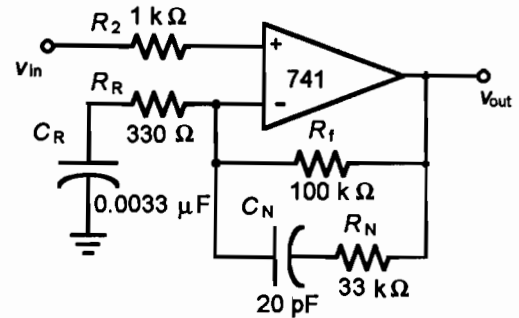

Figure 60.1
1. Build the circuit of Figure 60.1. Apply DC power.
7. For the circuit of Figure 60.1, calculate and record the cutoff frequencies below.
Calculate and record the bandwidth (BW) for the circuit of Figure 60.1.
- Use the circuit of Figure 60.1. With circuit power off, use a jumper wire to short CR. Reapply DC power. With your signal generator connected to Vin, apply a sinewave signal of 80 kHz at 100 mVp-p.
- Describe, for the circuit of Figure 60.1, which component you would change to lower the filter  $f_2$  point. Include in your description the type of change. Would it increase or decrease the schematic value given?
3. What is the first check you would make if there was no output from the circuit of Figure 60.1?